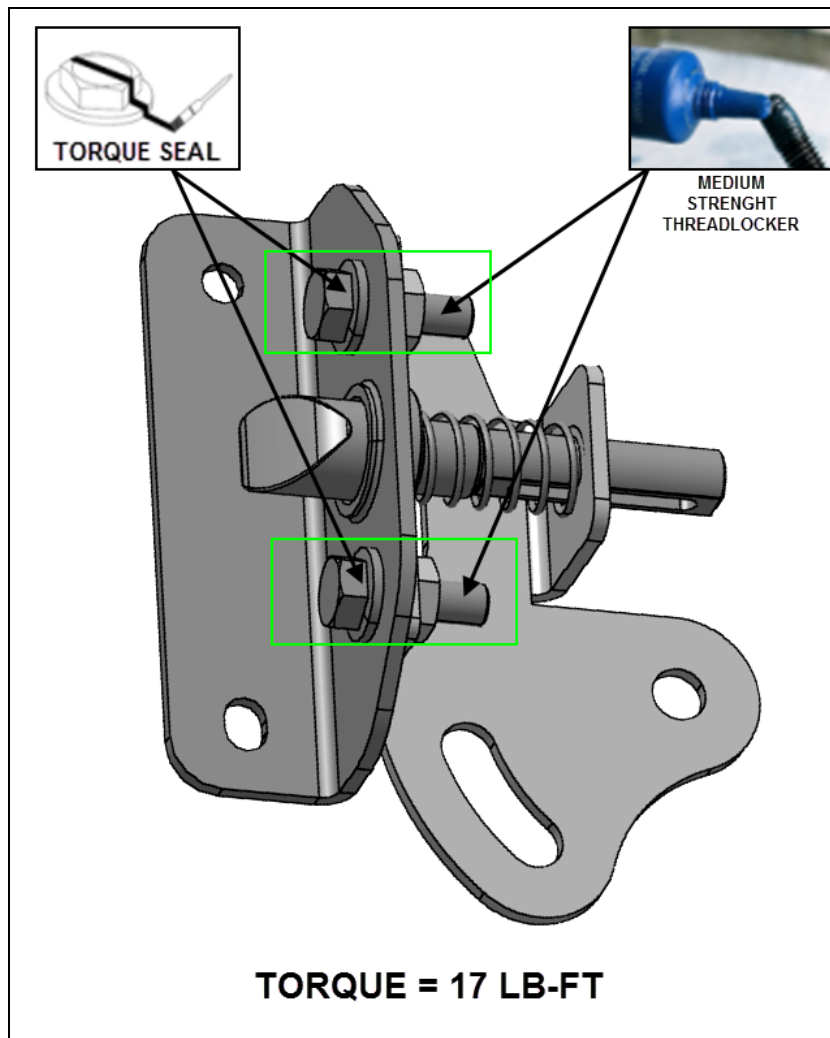

FIG.10 TIGHTENING LATCH BOLTS
- Put medium strength threadlocker (Loctite blue 243 or equivalent) to the bracket screw threads and tighten the bracket to the door support. Torque to 17 lb-ft and apply tamper proof indicator paint (torque seal) to the bolt heads (Fig.10).